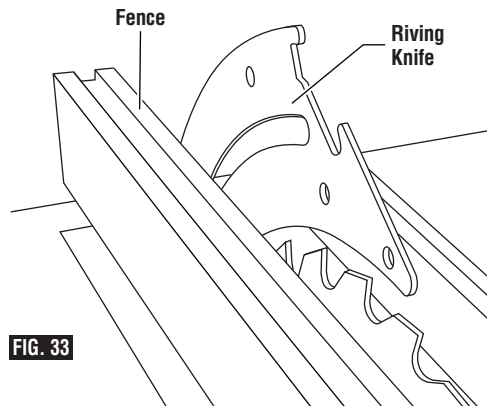

FIG. 33
3. Place the rip fence on the left side of the table. Carefully move the rip fence against the blade so that the rip fence is parallel to the blade and just touches the tips of the saw teeth. Lock the rip fence and make sure the blade at the front and back is still touching the rip fence (Fig 33).